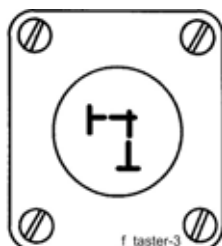
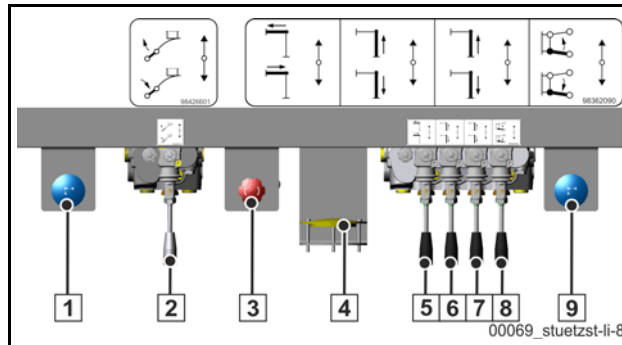

Fig. 256 Release button
Fig. 258 Example illustration: Outrigger control block for model S65SXF, on the left in the direction of travel
In order to move the outrigger cylinders, the release button (Fig. 256); (6) (Fig. 258) next to the outrigger control block must be held down while the control lever is actuated.
Caption (Fig. 258)